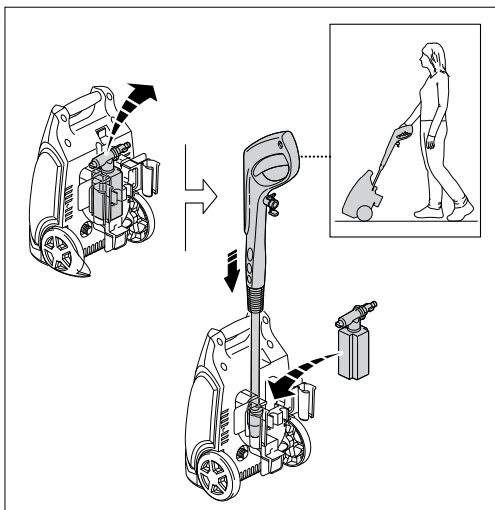

Fig. 3
- Please refer to (Fig.3) for accessory storage locations on the accessory holder.